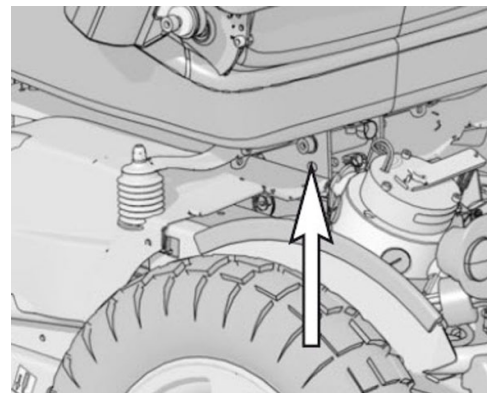

Figure 80. The seat's rear bracket on the chassis without an power seat lift
1. Place the wheelchair on a level surface and raise the seat lift for better access. If the battery is completely dead, it is possible to manually raise the seat lift using the screw at the front edge under the seat. Do not use an electric drill. If there is a fixed seat bracket, remove the rear chassis cover. Then remove the seat's rear mounting screw and tip the seat forwards. See fig. 80. Remove the front cover. This is fixed with two knobs on the sides and two guide pins at the front. Lift the cover up and forwards.